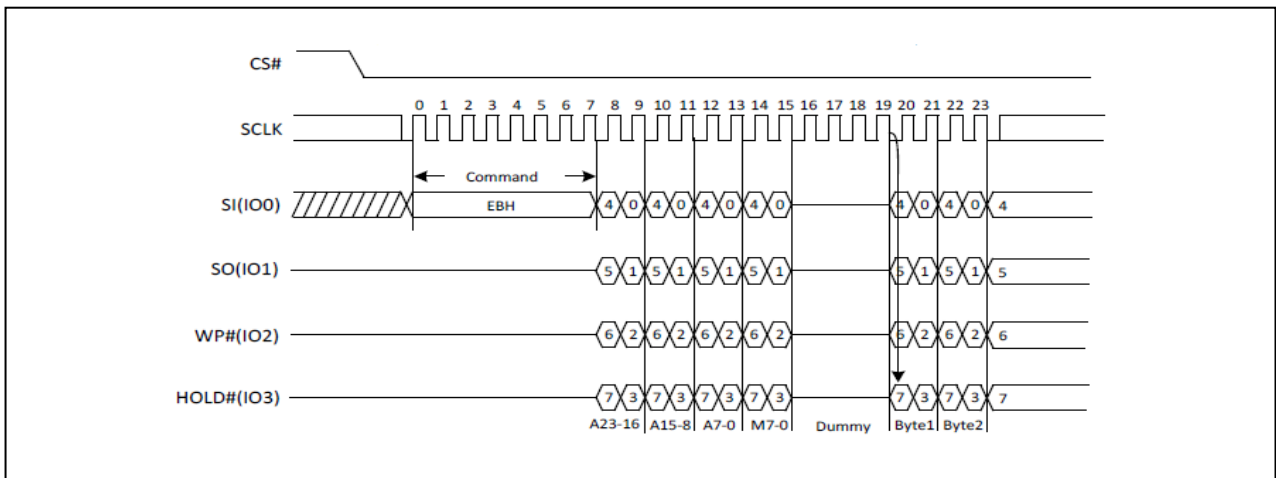

Figure12.Quad I/O Fast Read Sequence Diagram (M5-4≠ (1, 0))
The Quad I/O Fast Read command is similar to the Dual I/O Fast Read command but with the capability to input the 3-byte address (A23-0) and a “Continuous Read Mode” byte and 4-dummy clock 4-bits per clock by IO0, IO1, IO3, IO4, each bit being latched in during the rising edge of SCLK, then the memory contents are shifted out 4-bit per clock cycle from IO0, IO1, IO2, IO3. The command sequence is shown in Figure 12. The first byte addressed can be at any location. The address is automatically incremented to the next address after each byte of data is shifted out. The Quad Enable bit (QE) of Status Register (S9) must be set to enable for the Quad I/O Fast read command.